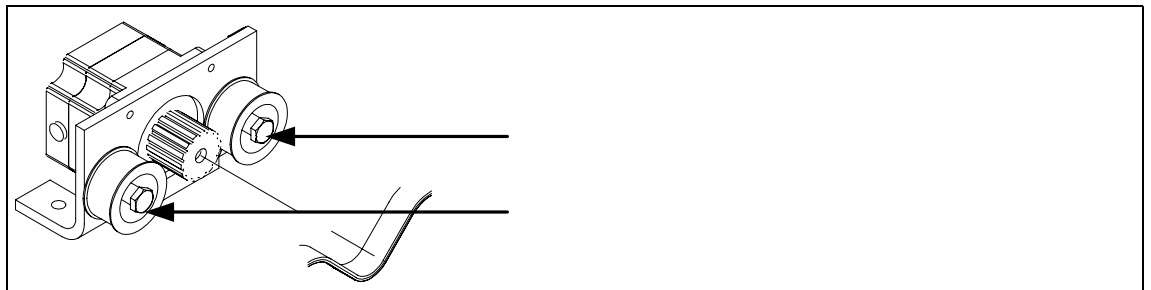

Fig. 6.13.25 Loosening the eccentric axle on the deflection pulley
- Loosen the eccentric axle of the deflection pulley and relieve the tension on the toothed belt of the width adjustment system drive (see also Fig. 6.13.25).